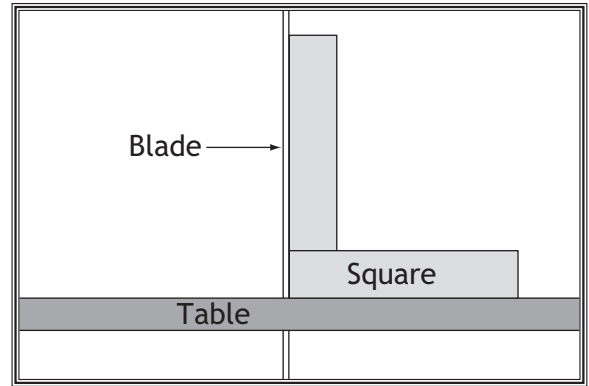

Figure 31. Squaring table to blade.
5. Raise the upper blade guide assembly and place a 6" machinist's square or try-square on the table next to the side of the blade as illustrated in **Figure 31**. Adjust the table stop bolt to raise or lower the table until the table is 90° to the blade.